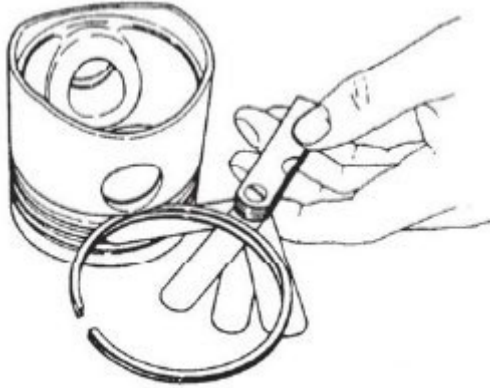

Figure 110.
8. Place each compression piston ring in the groove as shown (Figure 110). Use a feeler gauge to measure the clearance between the piston ring and the piston ring land. Record the measurements. See *Piston Ring Mechanical Specifications Chart*. Replace the piston if not within specification.